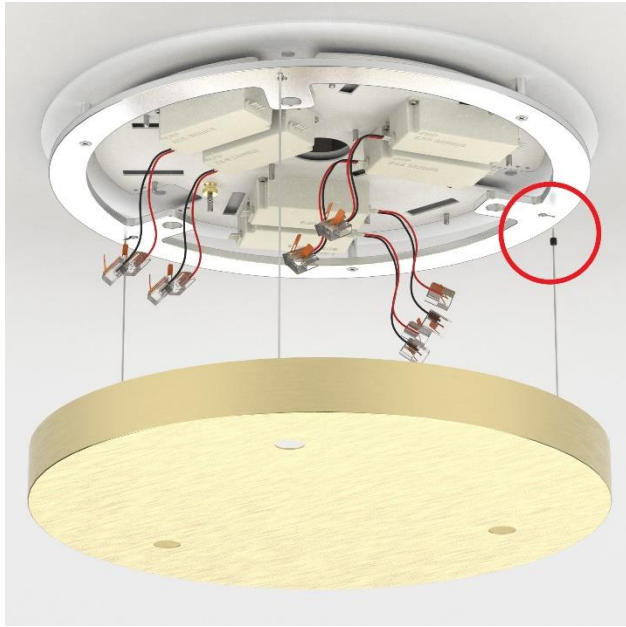

Figure 8
- Suspend canopy from ceiling assembly (Figure 8).